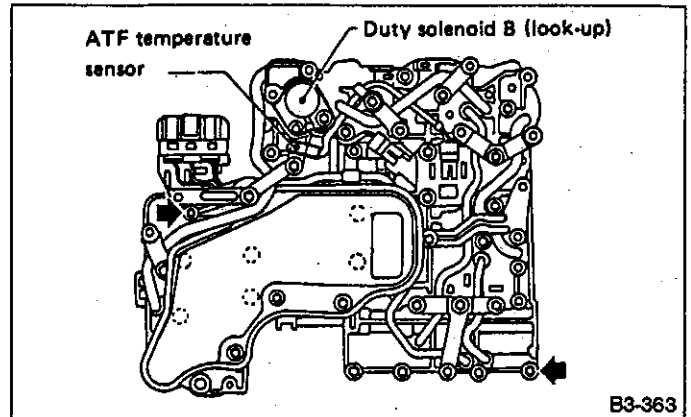

Fig. 241
- a. Do not lose the nine (9) steel balls contained in the upper valve body.
- c. Remove the upper-lower valve body tightening bolts. Then remove two locating bolts. (Fig. 241) During ordinary servicing, clean the control valve bodies in this condition, without further disassembly. In the event of a seized clutch or other problem, disassemble the control valve bodies further, and clean the component parts.